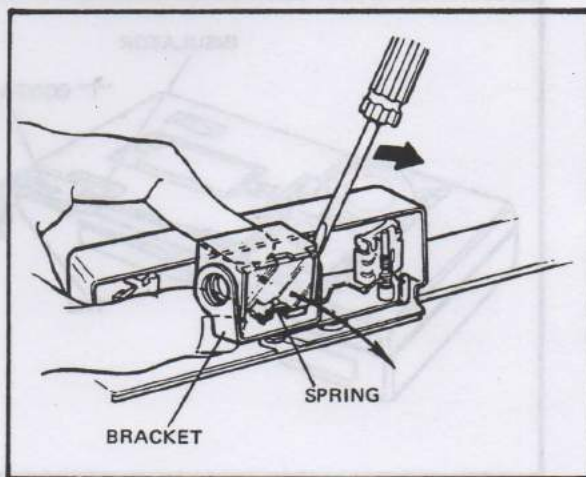

FIG. 5.44 REMOVING THE OPTICS ASSEMBLY
2. Unhook the spring (Figure 5-44) from the optics assembly tab. Allow the spring to slide under the tab.